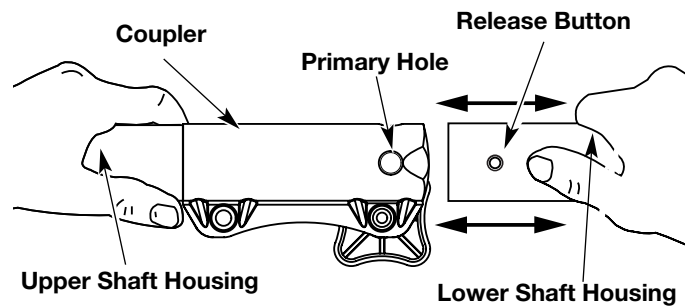

Fig. 2
3. While firmly holding the upper shaft housing, pull the add-on straight out of the coupler. (Fig. 2)
3. While firmly holding the add-on, push it straight into the coupler (Fig. 2).